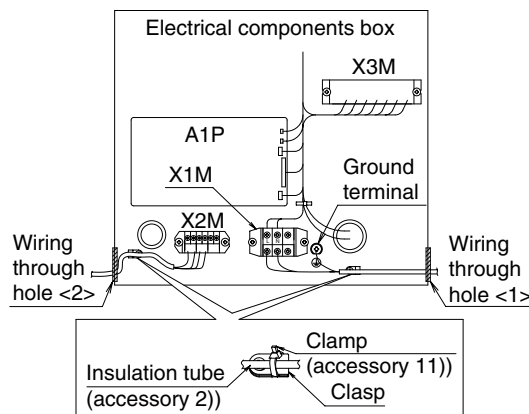

Fig. 17
• Power supply wire, Ground wire (Refer to Fig. 17)
• Transmission wire, Remote controller wire (Refer to Fig. 17)